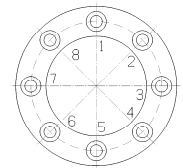

Figure 2
- 7 Check again if the torque of the screws is equal to the torque shown in the table by executing 2.5 revolutions clockwise (see Figure 2).